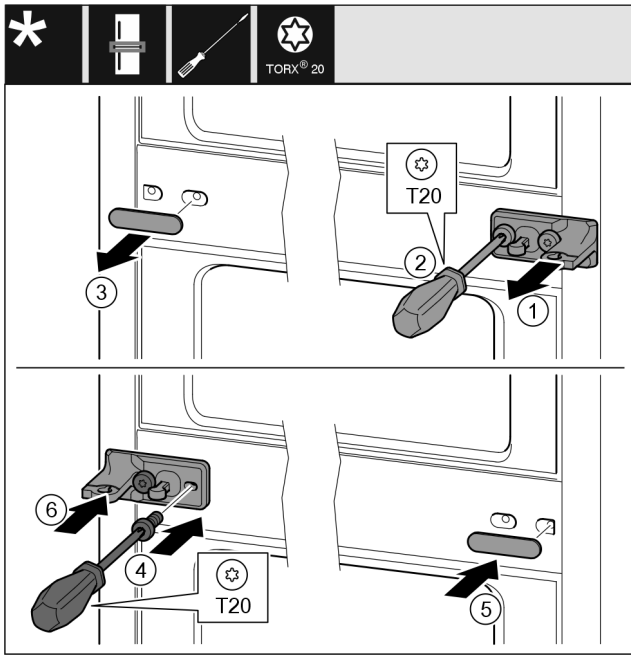

Fig. 35
- ▶ Remove the washer Fig. 35 (1).
- ▶ Unscrew screws Fig. 35 (2) with screwdriver.
- ▶ Remove the cover Fig. 35 (3) carefully.
- ▶ Turn the bearing block with film Fig. 35 (4) by 180° and screw it tight on the other side.
- ▶ Turn the cover Fig. 35 (5) by 180° and attach to the other side.
- ▶ Slide on the washer Fig. 35 (6) from the front.